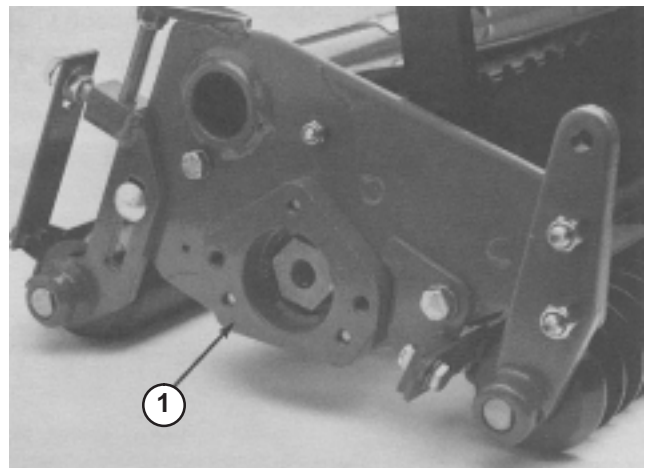

Figure 10
Removing Dethatcher Reel From Reel Frame (Fig. 10–11)
1. Remove the (2) capscrews, washers, and lockwashers from the end cap weight on the opposite end of the dethatcher reel from the driven end. Remove the end cap weight.
2. Remove the (2) capscrews, washers, and lockwashers from the reel motor. Remove the reel motor.
3. Remove the (3) capscrews, washers, and lockwashers from the non-driven end of the dethatcher unit. Remove the end bearing plate and carefully remove the plastic bearing debris seal. Remove the (3) capscrews, washers, and lockwashers from the driven end of the unit. Remove the end bearing plate and carefully remove the other plastic bearing debris seal (Fig. 10).